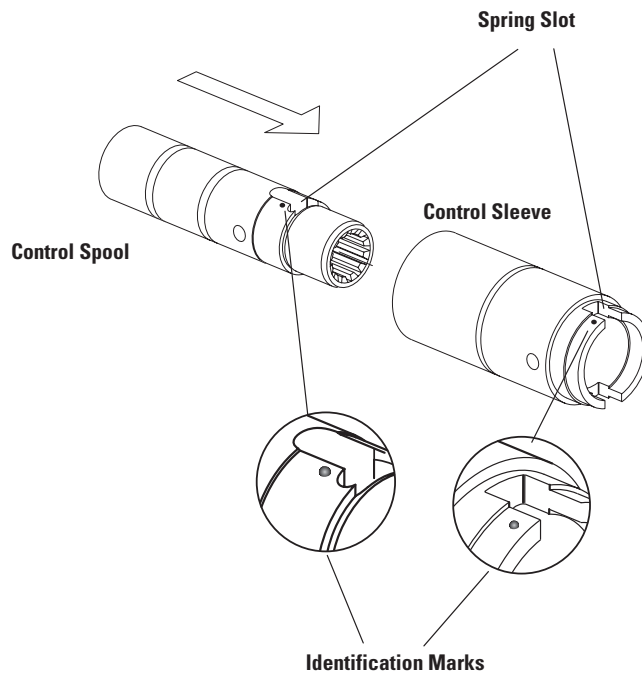

Figure 17
15. Assemble spool and sleeve carefully so that spring slots line up at the same end. Rotate spool while sliding parts together. Test for free rotation. Spool should rotate smoothly in sleeve with fingertip force applied at splined end. Align spring slots and identification marks (Figure 17) in spool and sleeve and stand parts on end of bench.